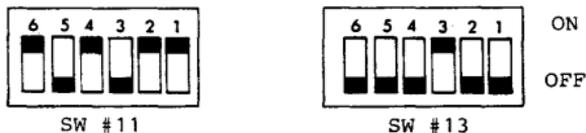

FIGURE 2
- Set the 96 character printer switch as shown in Figure 2.